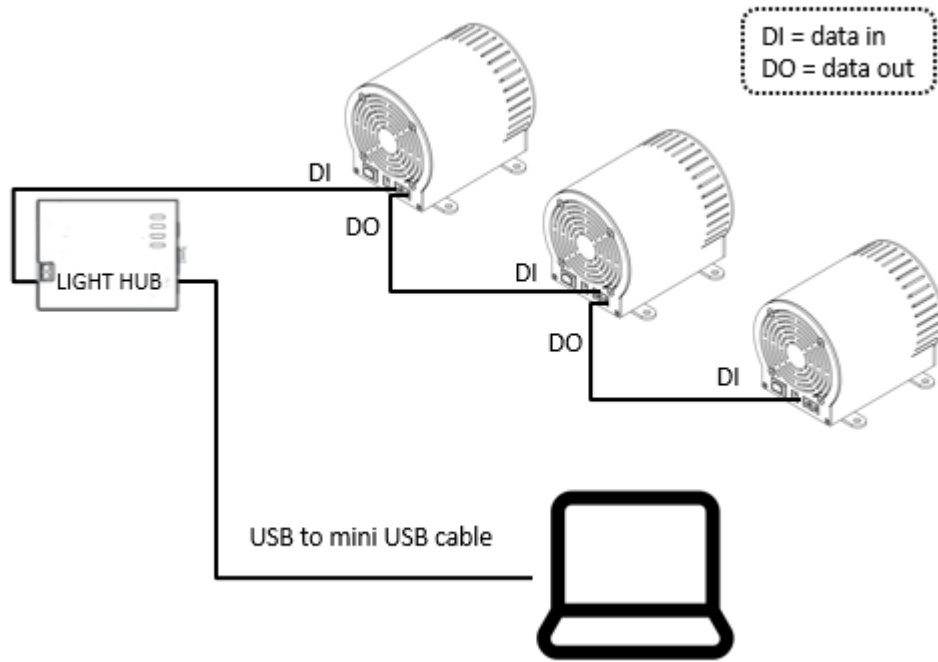

Figure 10. Schematics of several SPECTRA TUNE LAB's connected and controlled by a single LIGHT HUB
There may be cases when multiple SPECTRA TUNE LAB’s are being used together with the same LIGHT HUB. In this case it is possible to connect different devices in serial as show in Figure 10 using the data in (DI) and Data out (DO) connections cable.